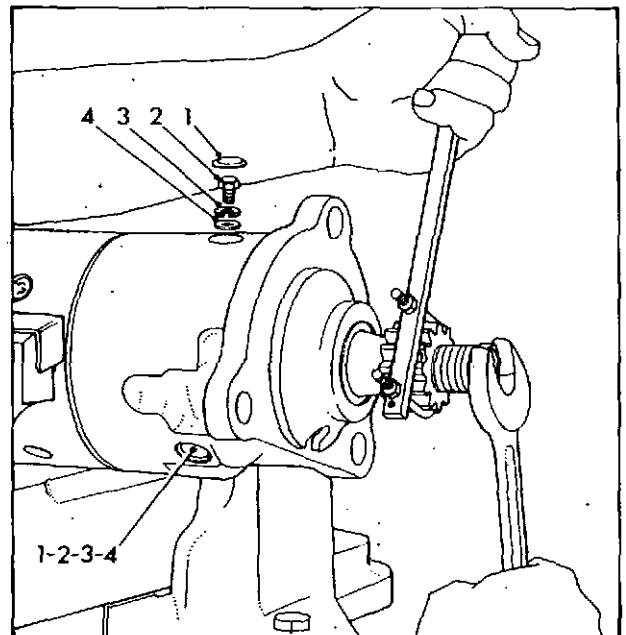
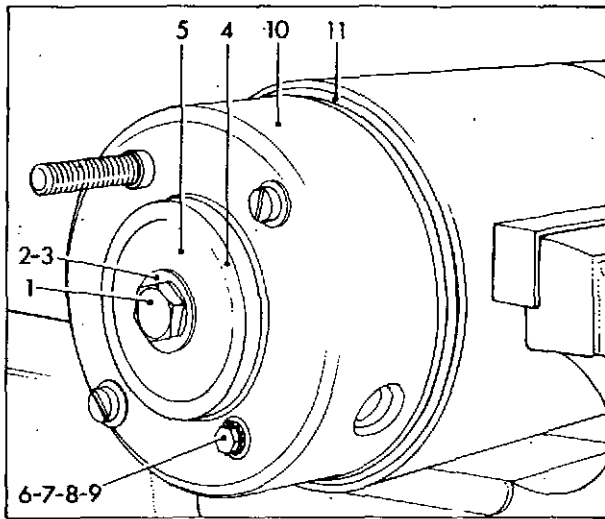

Fig. 1 Loosening pinion stop nut
Fig. 2 Removing commutator end shield
Commutator end shield (fig. 1 and fig. 2)
Hold the pinion as previously described and remove the commutator end bolt (1) fig. 2 together with thrust washer (2) and shims (3). Note the number of shims fitted to the drive end shield and retain them for use when re-assembling.